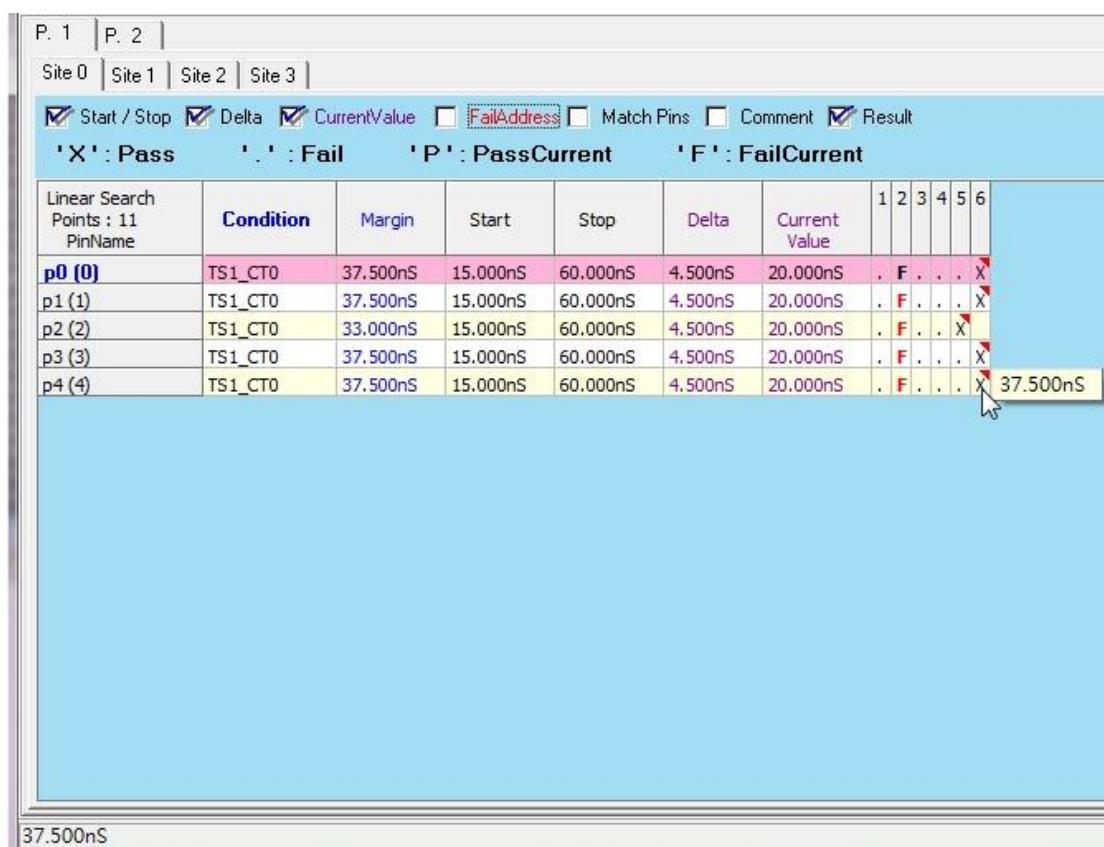
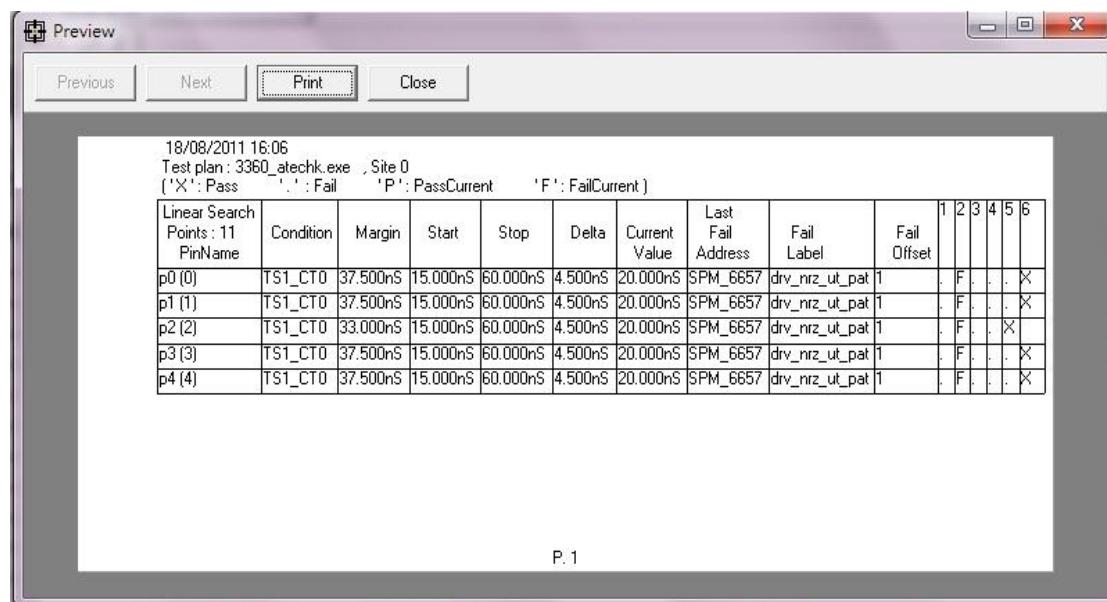

Figure 14-16 Pin Margin Plot Window (Linear Search, Transition Stop)
Figure 14-18 Preview Window
The plot is titled with the search type. For binary search, the “point number” will also be displayed on the title ((1) in Figure 14-16 to Figure 14-18).